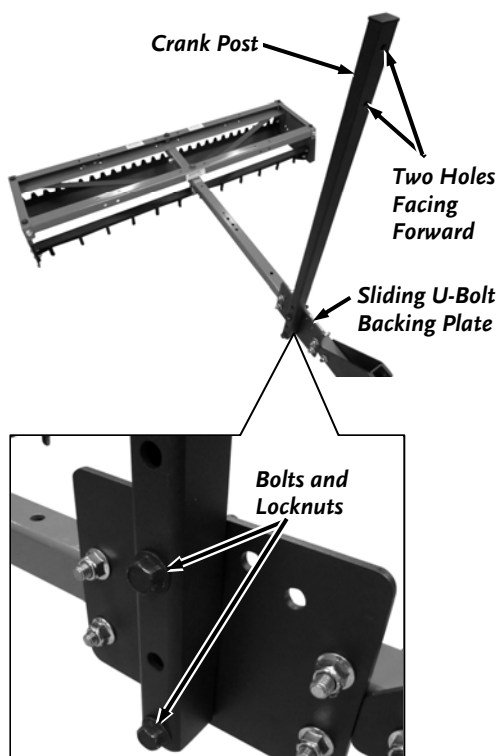

Figure 16
18. Install the Crank Post onto the Sliding U-Bolt Backing Plate with two 3/8-16 x 2-1/2" Bolts and Locknuts using two 9/16" Wrenches (**Figure 16**).